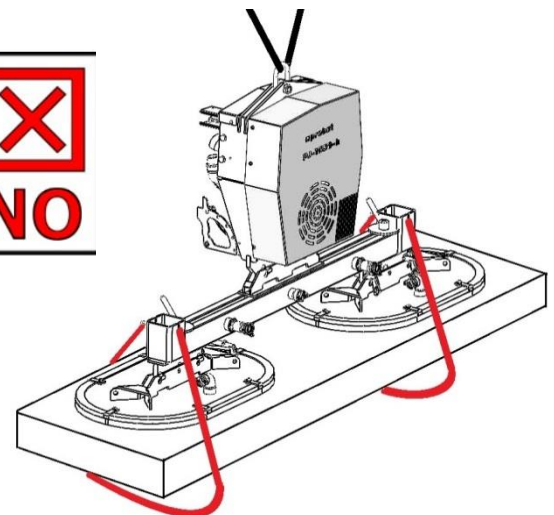

Fig. 2
Unequal positioning of the suction plates is not permitted (see figure 2)!
- **The safety chains must never hang loose under the load, otherwise the load may fall down, in case of a vacuum failure (Fig. 2).**